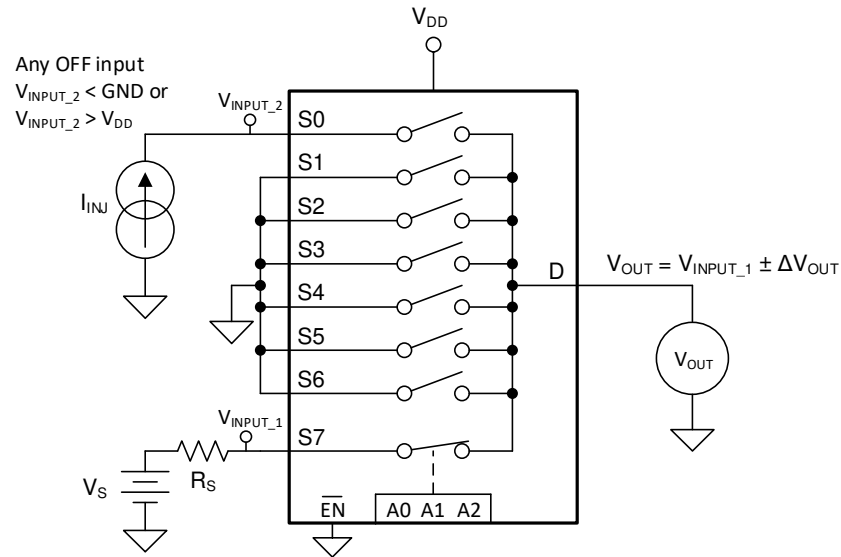

**Figure 7-10. Bandwidth Measurement Setup**
Bandwidth is defined as the range of frequencies that are attenuated by less than 3dB when the input is applied to the source pin (Sx) of an on-channel, and the output is measured at the drain pin (D) of the device. Figure 7-10 shows the setup used to measure bandwidth.